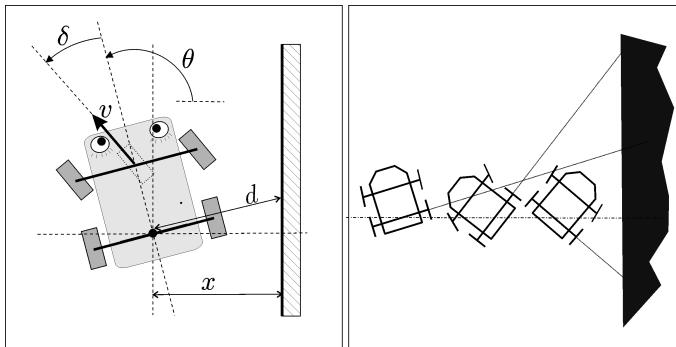

Figure 6.9: The controller imagines a simpler world than reality, with a straight vertical wall
3) We would like the car to move with a constant speed along the road. Of course, it is out of the question to involve the shape of the road in the controller, since it is unknown. Moreover, the position and orientation variables of the car are not measured (in other words we have no compass or GPS). These quantities however are often unnecessary in order to reach the given objective, which is following the road. Indeed, are we not ourselves capable of driving a car on a road without having a local map, without knowing where we are and where North is ? What we are interested in when driving a car is the relative position of the car with respect to the road. The world as seen by the controller is represented on Figure 6.9. In this world, the car moves laterally, like in a computer game, and the edge of the road remains fixed. This world has to be such that the model used by the controller has state variables describing this relative position of the car with respect to the road and that the constancy of the state variables of this model corresponds to a real situation in which the car follows the road with a constant speed. We need to imagine an ideal world for the controller in which the associated model admits an operating point which corresponds to the desired behavior of our real system. For this, we will assume that our car drives at a distance \bar{x} of the edge. This model has to have the same inputs \mathbf{u} and outputs \mathbf{y} as the real system, more precisely two inputs (the acceleration of the front wheels \dot{v} and the angular speed of the steering wheel $\dot{\delta}$) and three outputs (the distance d of the center of the rear axle to the edge of the road, the speed v of the front wheels and the angle δ of the steering wheel). Given the fact that only the relative position of the car is of interest to us, our model must only contain four state variables: x, θ, v, δ , as represented on the figure. One must be careful though, since the meaning of the variable x has changed since the